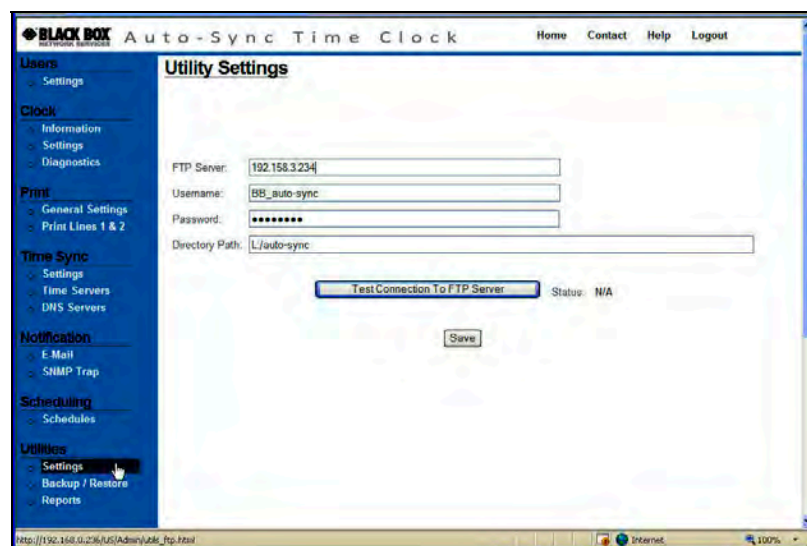

Figure 4-22. Utility Settings (FTP Server).
1. Click on the **Settings** link under Utilities and the **Utility Settings** screen for FTP will appear (see *Figure 4-22*).
4. Click on the **Run Backup** button to perform the Backup and the status will appear once the operation has been completed. The transaction file will be stored at the same location (path) previously entered for the FTP Server (see *Figure 4-22*). The configuration file will also be stored in the same location but in a binary format with a filename which correlates to the clock and ending in "**\_ATVSConfig.bin**".